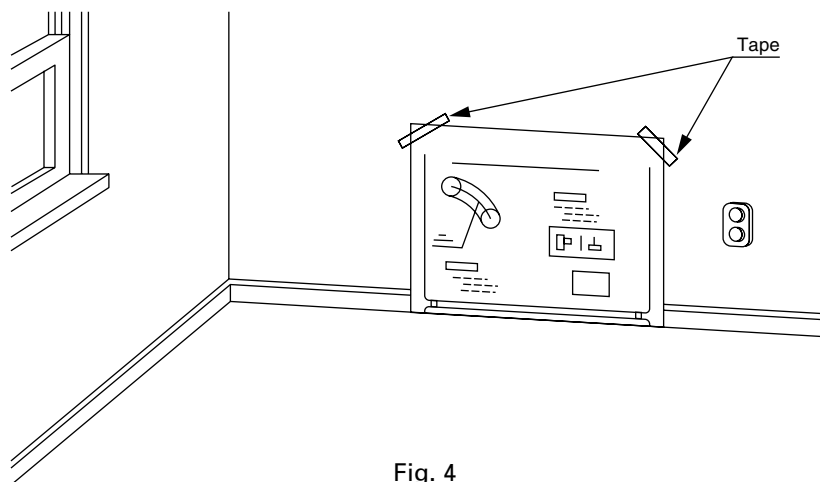

Fig. 4
- For standard installation, use the template enclosed with the heater to position the hole for the flue pipe. Tack or tape template to the wall at the desired position (See Fig. 4).